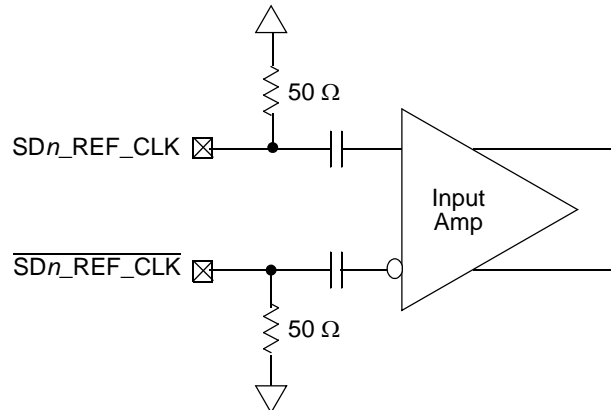

Figure 44. Receiver of SerDes Reference Clocks
- The SDn_REF_CLK and $\overline{SDn_REF_CLK}$ are internally AC-coupled differential inputs as shown in Figure 44. Each differential clock input (SDn_REF_CLK or $\overline{SDn_REF_CLK}$) has on-chip 50- Ω termination to SV_{SSn} followed by on-chip AC-coupling.